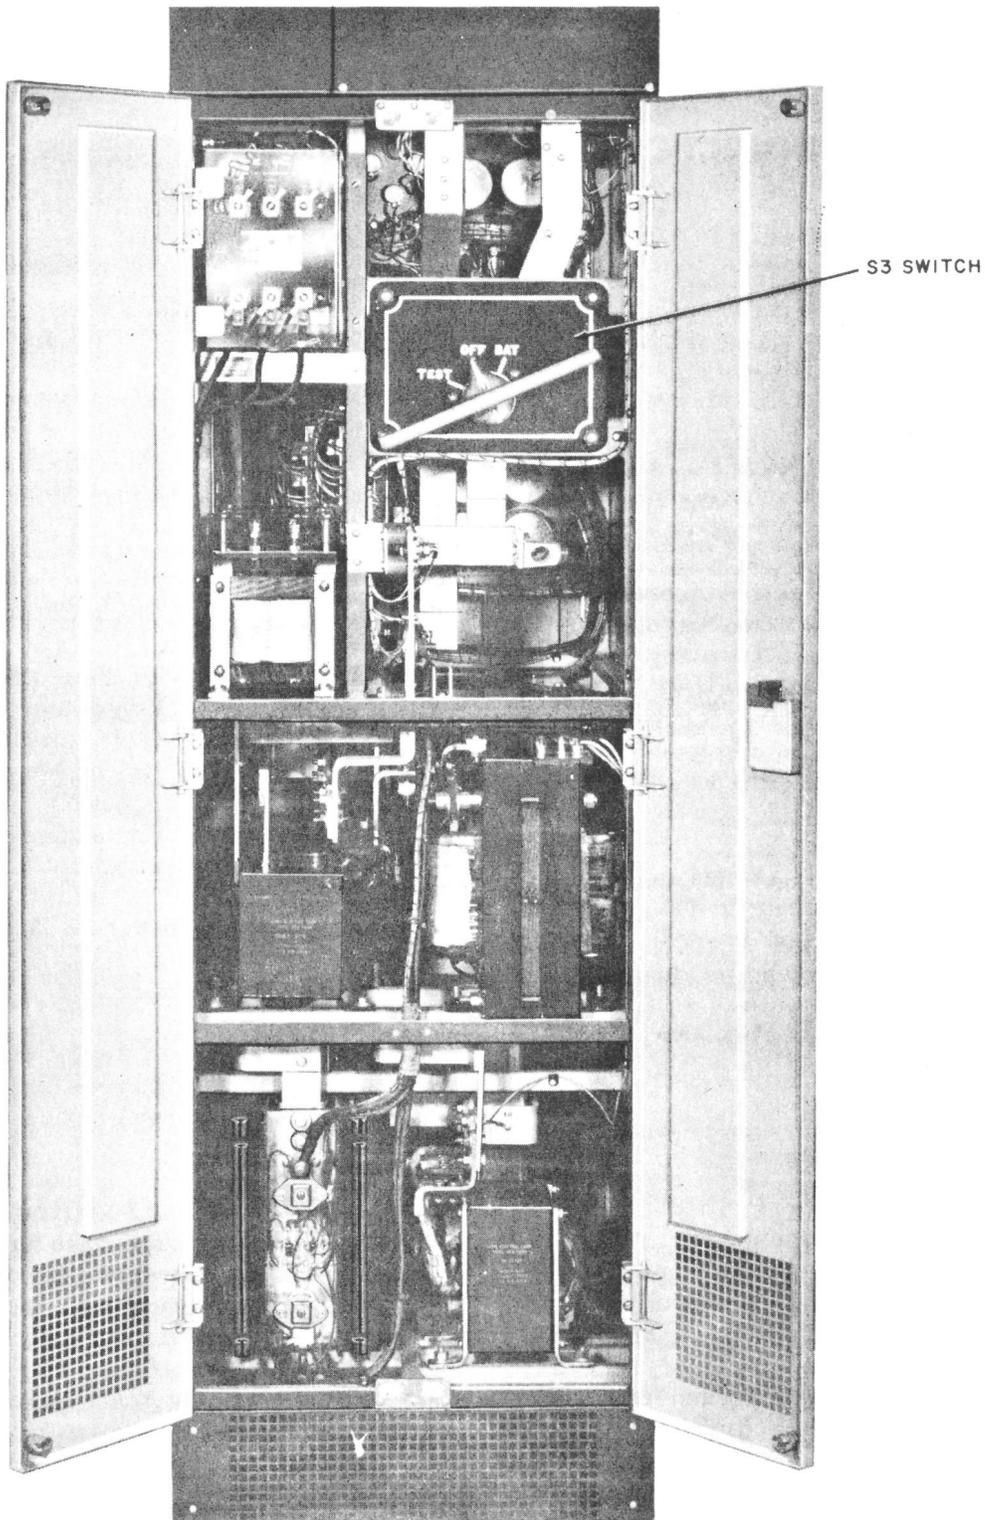

Fig. 1—S3 Switch on KS-20489 Rectifier (Lists 21 and 22)
1.01 This section provides a maintenance procedure for testing, inspecting, cleaning, and adjusting the DC OUTPUT (S3) switch (Fig. 1) of the KS-20489 rectifier.